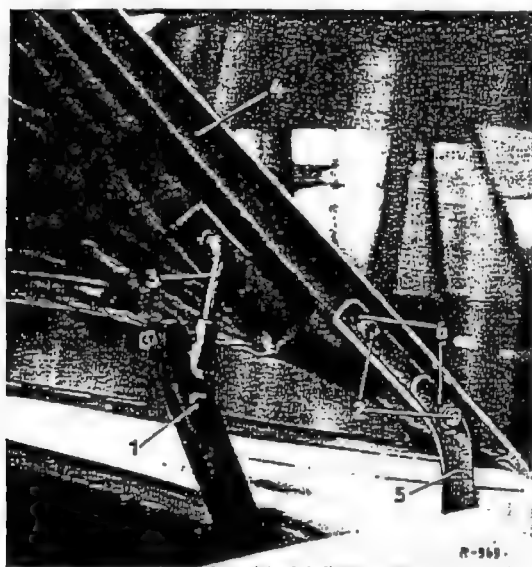

Fig. 75-1/1
1. Remove the cottered pin (1) from the torsion bar (3) (Fig. 75-1/1). Then release the torsion bar by means of Removal Tool 1115890261 (see Fig. 00-1/1).
2. Unscrew the fixing screws (2) at the left and the right of the rear lid hinge (5). Remove the rear compartment lid (4) together with the torsion bar (3) (see Fig. 75-1/1).